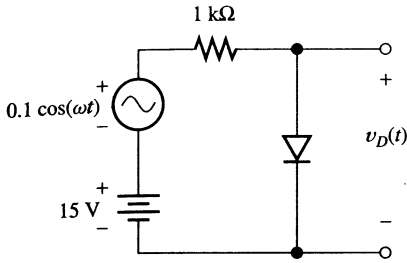

Figure P3.53
3.53. Consider the circuit illustrated in Figure P3.53. The source voltage consists of a dc component plus an ac ripple. The diode has a forward drop of approximately 0.6 V and $n = 1$. Find an approximate expression for the output voltage $v_D(t)$, including both the dc term and a small ac term.